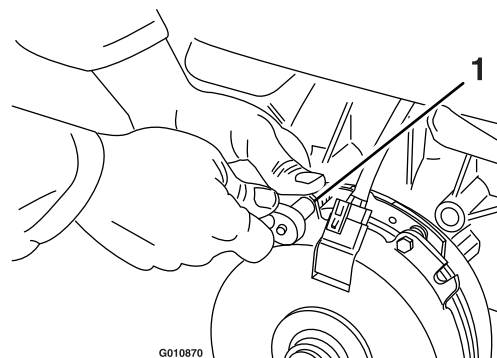

Figure 68
- A. Loosen both brake-mounting bolts 1/2 to 1 full turn as shown in Figure 68.